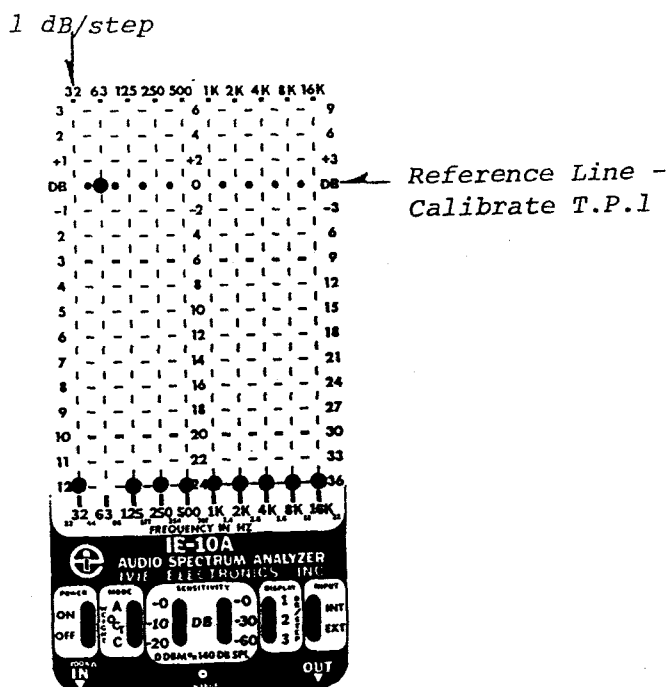

Figure 36
2. Set the IE-10A DISPLAY switch to 1 dB per step for best resolution and accuracy. Connect the IE-10A to T.P.1 and adjust signal generator output to be within the manufacturer's device specifications for input level. Also, if possible, adjust the generator level to be at the 0 dB line on the IE-10A display graticule as shown in Fig. 36 below. It isn't necessary for the signal level to be at 0 dB on the analyzer display, but it does serve as a convenient calibration line for most insertion loss measurements.